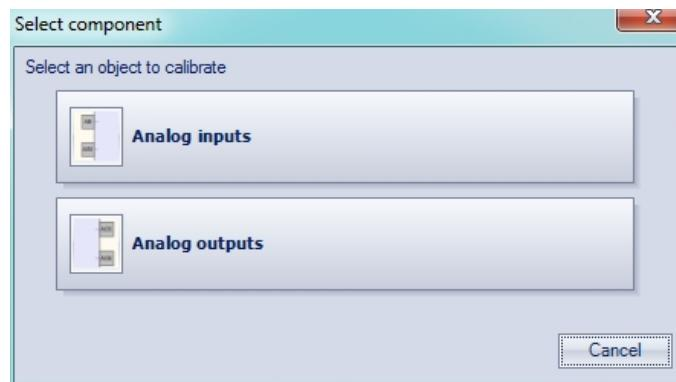

Fig. F.2
2. Start ALP software, select menu item *Device>Calibration*, in the opened dialogue box select ‘Analog inputs’ (Fig. F.2)
5. Start ALP software, select menu item *Device>Calibration*, in the opened dialogue box select *Analog outputs* (Fig. F.2)